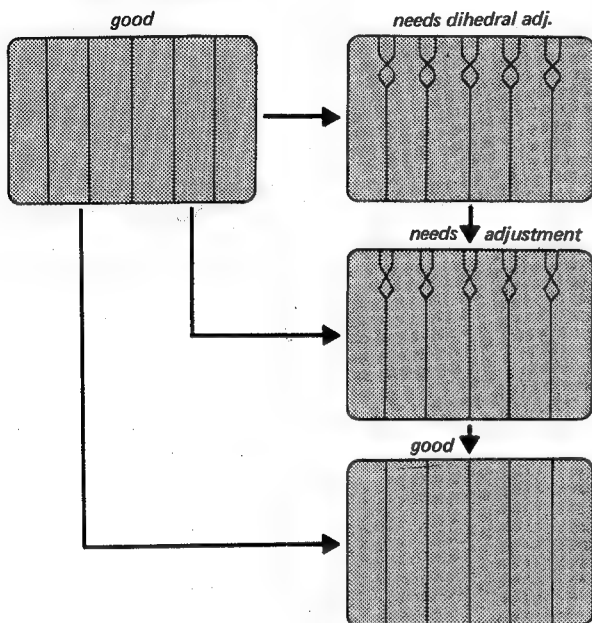

Fig. 4-8. Head dihedral adjustment
3. Observe the picture on the monitor. (Do not use a monitor set for a short horizontal AFC time constant.) If the top of the picture is as shown by "A" in Fig. 4-8 (it appears as horizontal jitter), adjust Video Head B as follows.
8. Play back the tape and observe the top of the picture shown in Fig. 4-8.